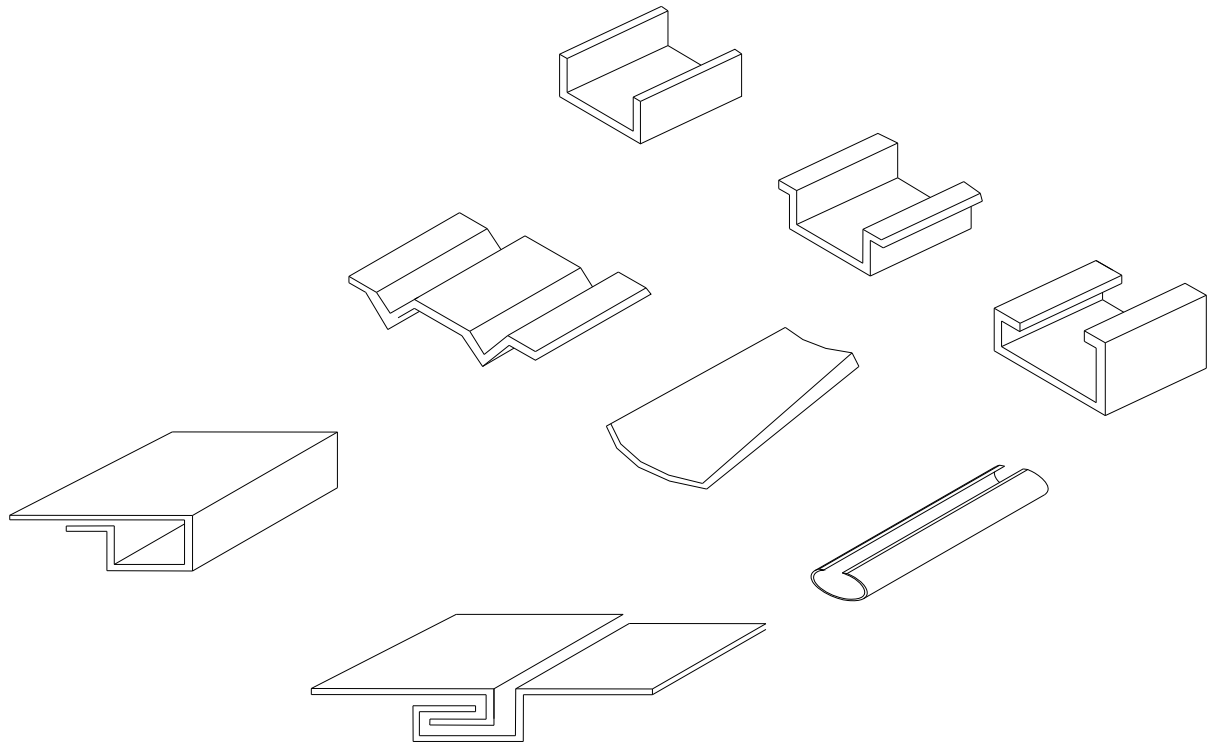

Fig.1
1.1 This machine is high-efficiency and high-precision in bending metal sheet. The opening size of V-gutter on lower dies is usually eight times larger than the sheet thickness, it should be regulated for sheets in different thickness. Using different kinds of upper and lower dies can bend many kinds of work pieces (See Fig.1).